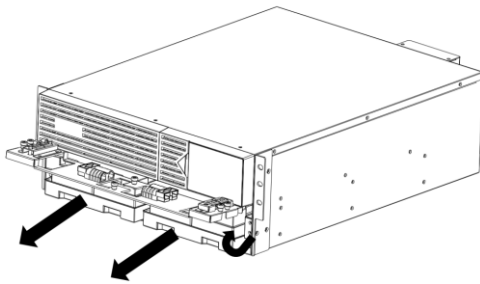

Figure 3
3. Pull both modules directly out the front of the UPS. (Fig. 3)